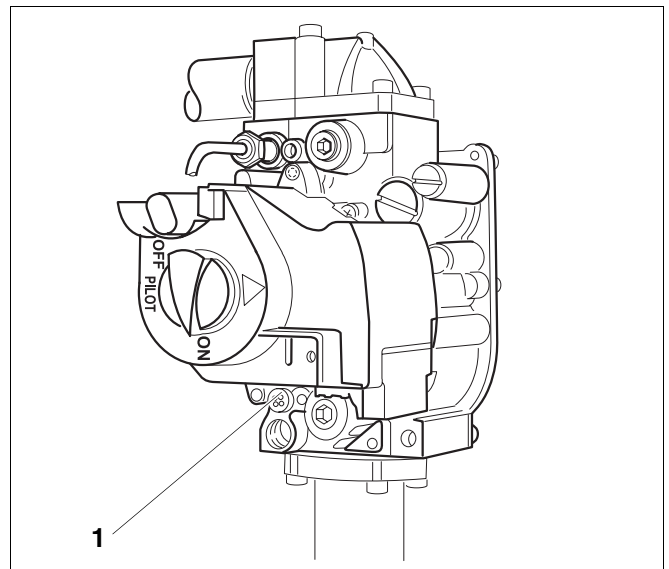

Fig. 44 Gas valve GC124 SP
The adjustment screw for the pilot burner is located on the gas valve behind a safety screw (→ Fig. 44, page 47).
10. Remove protective screw on adjustment screw for pilot burner (→ Fig. 44) Turn inner screw clockwise to reduce the size of the pilot burner flame. Turn the inner screw counterclockwise to increase the pilot burner flame.
11. After completed adjustment replace the safety screw (→ Fig. 44).
12. If the flame is too small, the pilot orifice needs cleaning (→ Fig. 44). If the pilot flame is acceptable, start cleaning.